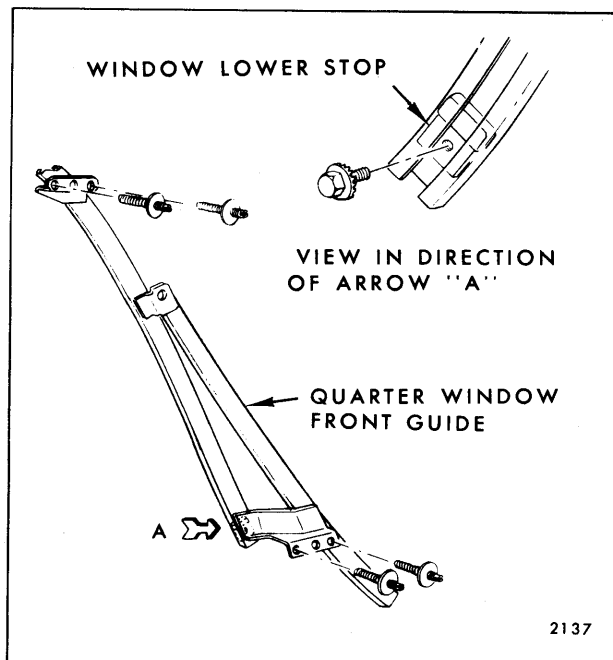

Fig. 7-38—Rear Quarter Window Lower Stop Adjustment - Styles so Equipped
**NOTE:** The rear channel of the front guide of most styles is equipped with an adjustable lower stop to control height of quarter window in the lowered position (see Fig. 7-38).